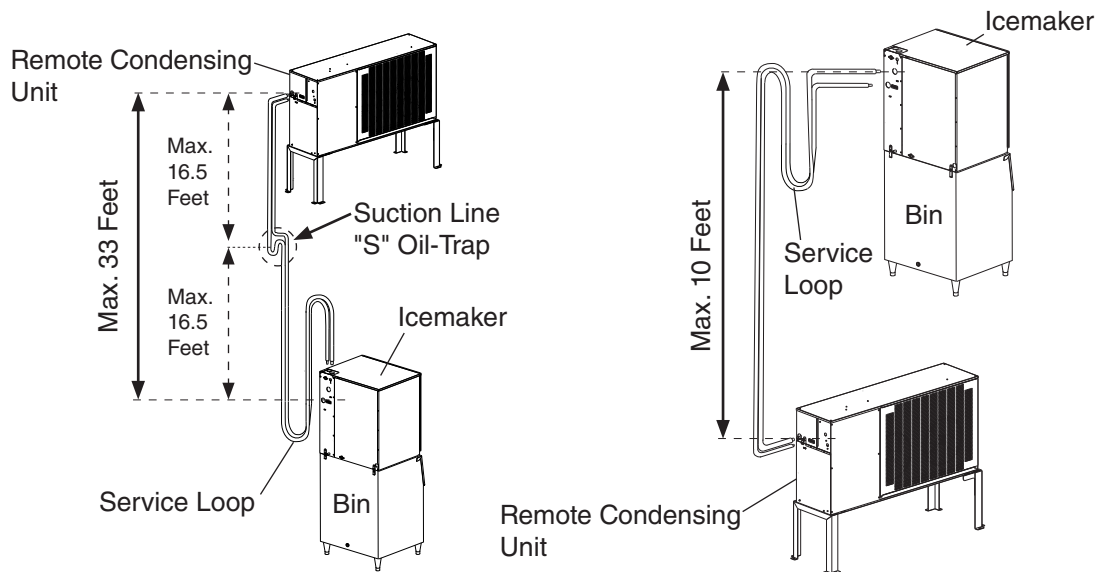

Fig. 1
- The maximum vertical distance between the remote condensing unit and icemaker is 33 feet above or 10 feet below the icemaker. These distances are measured fitting to fitting. See Fig. 1.